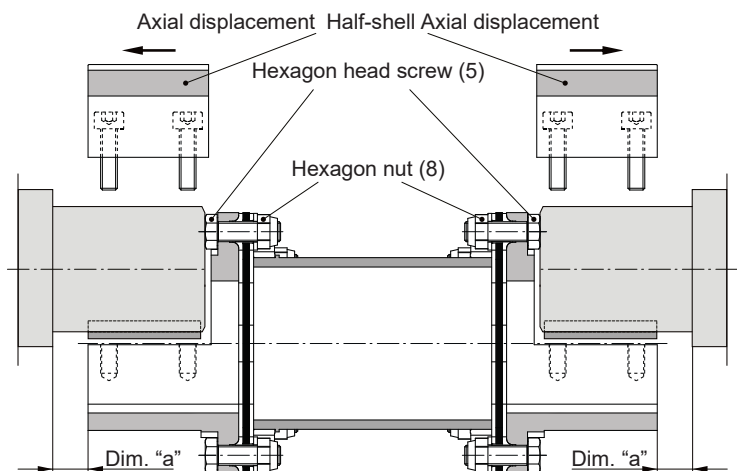

Fig. 8
On Type 951.8 __, radial installation is only possible if the half-shell is axially moved by a minimum dimension "a" (Fig. 8 / Table 8).
- c) Place the coupling from above onto the shafts and pre-assemble it with the respective half-shells (Fig. 8).